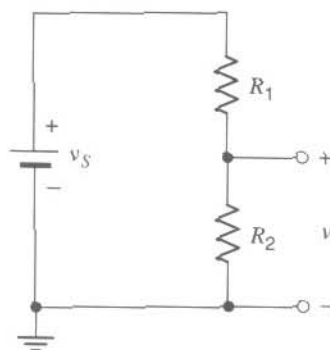

Fig. 5
11. Construct the voltage divider shown in Fig. 5, using two different-valued resistors with values of several $k\Omega$ each. Set v_S to any convenient value, measure v , and verify that it satisfies the voltage divider formula:
14. Replace the two resistors of Fig. 5 by the potentiometer, as in Fig. 7. Use any convenient value for v_S . Observe the effect of the potentiometer setting on the value of v . What are the minimum and maximum attainable values of v , in comparison to v_S ?